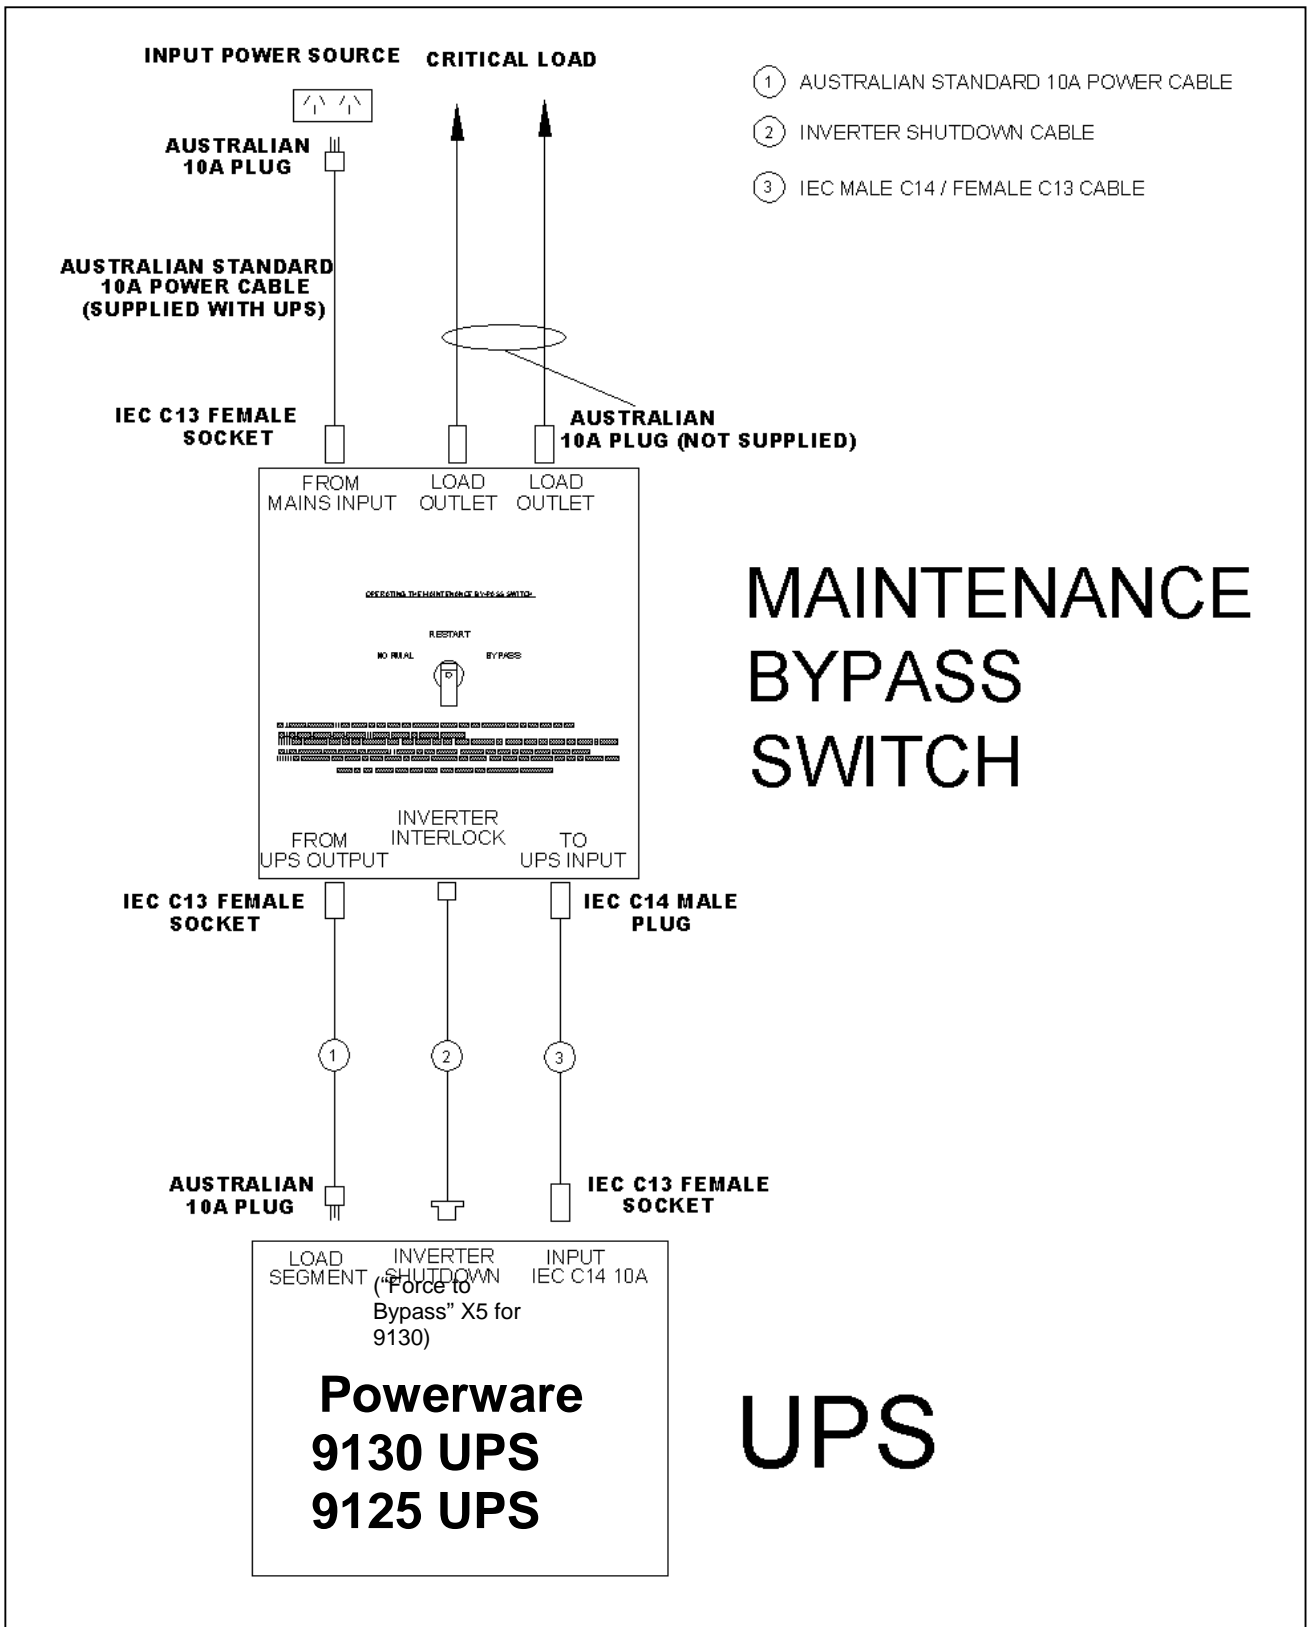
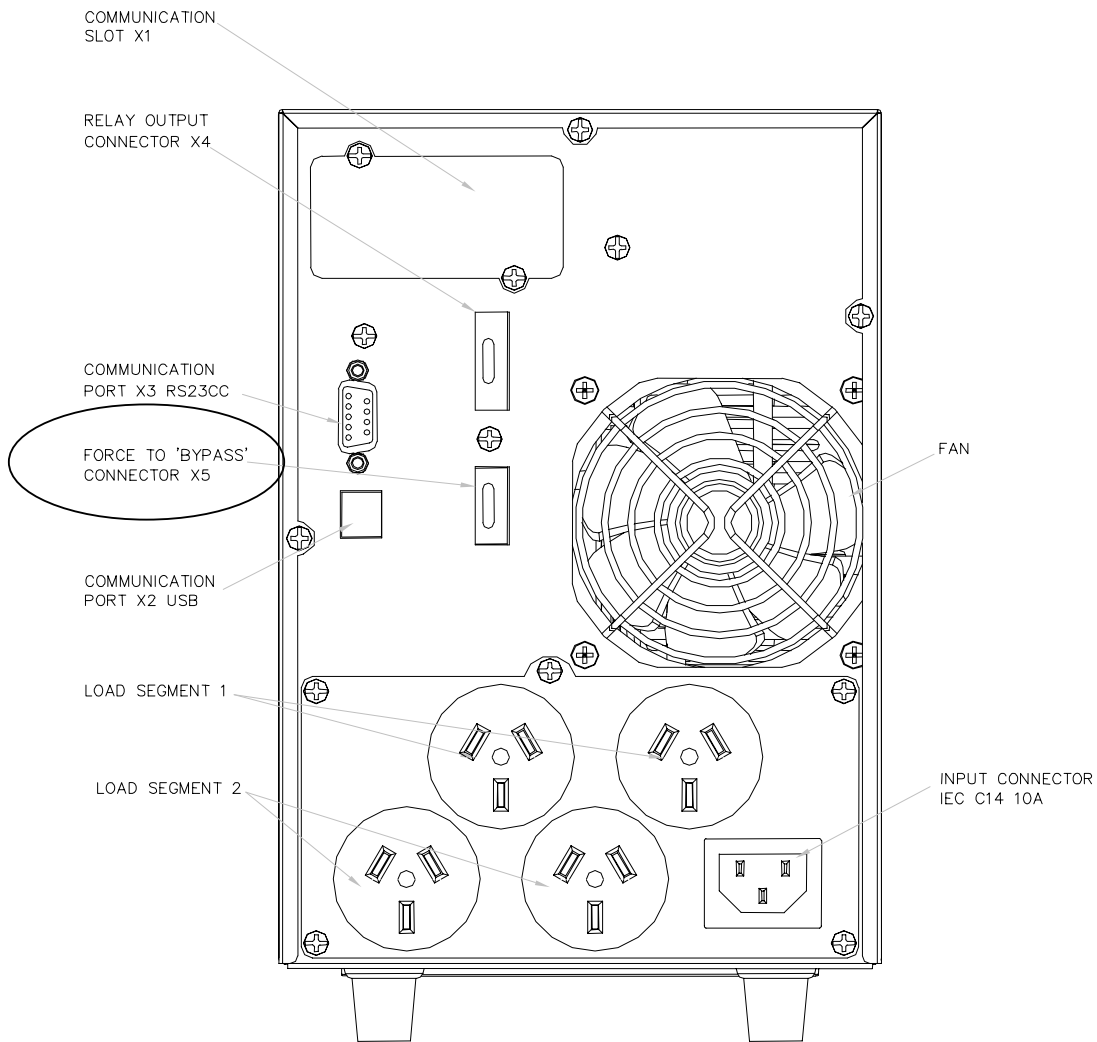

Figure 5: Connection Diagram of MBS (700, 1000, 1500, 2000 and 2200VA)
Figure 7: Rear Panel of Eaton 9130 700VA
Please read the following instructions carefully. Refer also to Figures 5 & 6 under Section 7: Installation for details on connection, and Figures 7 & 8 for UPS plug and socket-outlet locations.
3. Using the IEC Male / IEC Female cable supplied, connect plug on the UPS marked “INPUT” to the socket-outlet on the MBS marked “TO UPS INPUT”. (Cable is rated for 10A with 700VA – 2.2kVA UPS, and 15A for 3kVA UPS). Refer to Fig. 5 & 6 for further details.
4. Using the Australian Plug / IEC Female cable supplied, connect the UPS socket-outlet marked “LOAD SEGMENT 1” to the MBS plug marked “FROM UPS OUTPUT”. (Cable is rated for 10A with 700VA – 2.2kVA UPS, and 15A for 3kVA UPS). Refer to Fig. 5 & 6 for further details.
5. Connect the load cables to the load socket-outlets on the MBS. (700VA – 2.2kVA MBS units will accept 2 x 10A Australian Standard Mains plugs and 3kVA units will accept 2x 10A or 15A Plugs.) Refer to Fig. 5 & 6 for further details.
4. Using the Australian Plug / IEC Female cable supplied, connect the UPS socket-outlet marked “LOAD SEGMENT 1” to the MBS plug marked “FROM UPS OUTPUT”. (Cable is rated for 10A with 700VA - 2kVA UPS, and 15A for 3kVA UPS). If no “LOAD SEGMENT” is identified on the UPS, use any Australian output socket. Refer to Fig. 5 & 6 for further details.